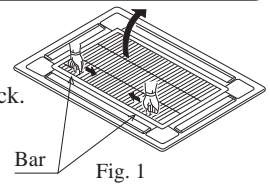

Fig. 1
- Be sure to see the Fig.1, when connecting and removing piping from unit.
- Cover joint of gas piping and insulator ⑦ with seal.
(1) Remove air inlet grill from ornament panel *
① Push in the bar in inlet grill and lift it up. (Refer to Fig. 1)